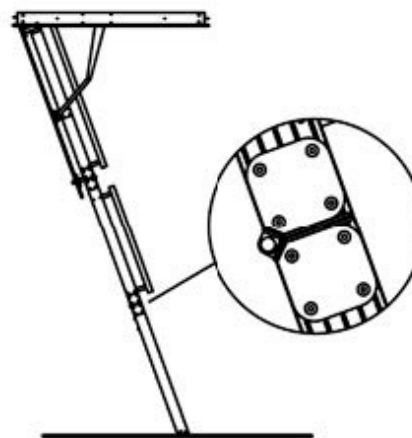

Figure 5
C. Turn the adjusting screws clockwise or anti clockwise, this will change the angle of the door until the feet touch the floor and section gaps are closed, as shown in figure 5 on page 6. Make sure both screws are adjusted the same length.
D. Tighten the lock nuts and re-check that both screws are the same length and it looks like figure 5 on page 6.